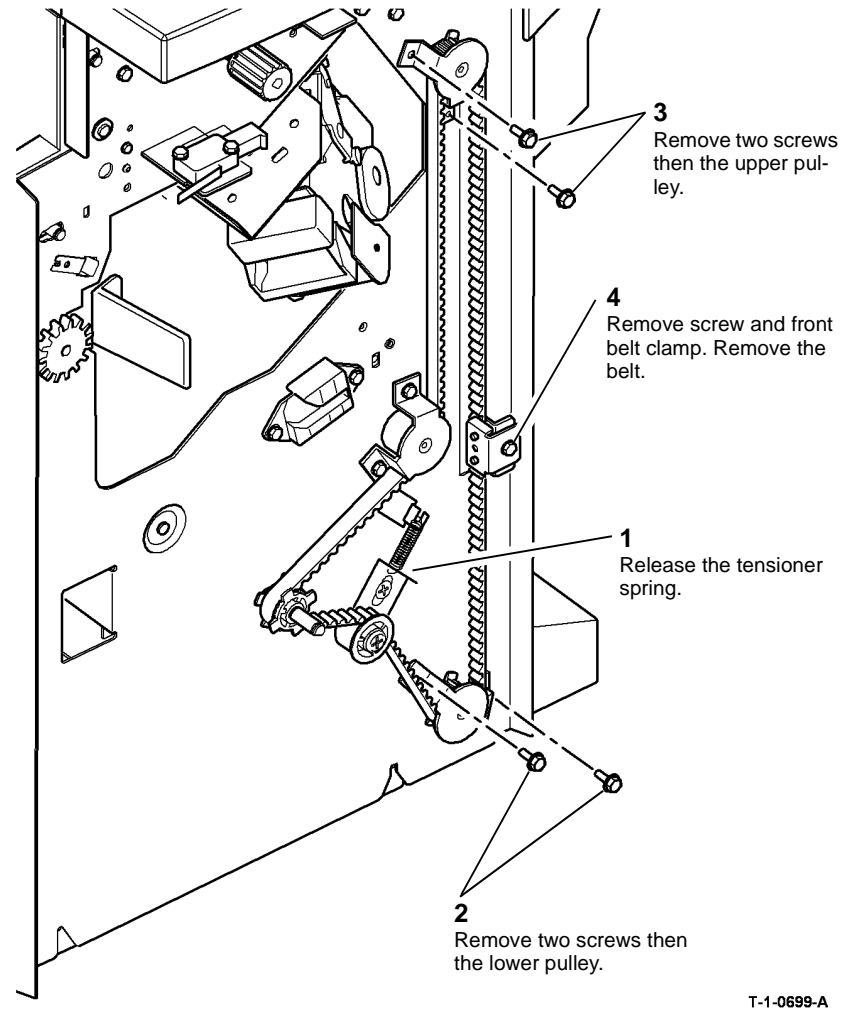

Figure 3 Bin 1 drive belt (front)
7. Remove the bin 1 drive belt (front) Figure 3.